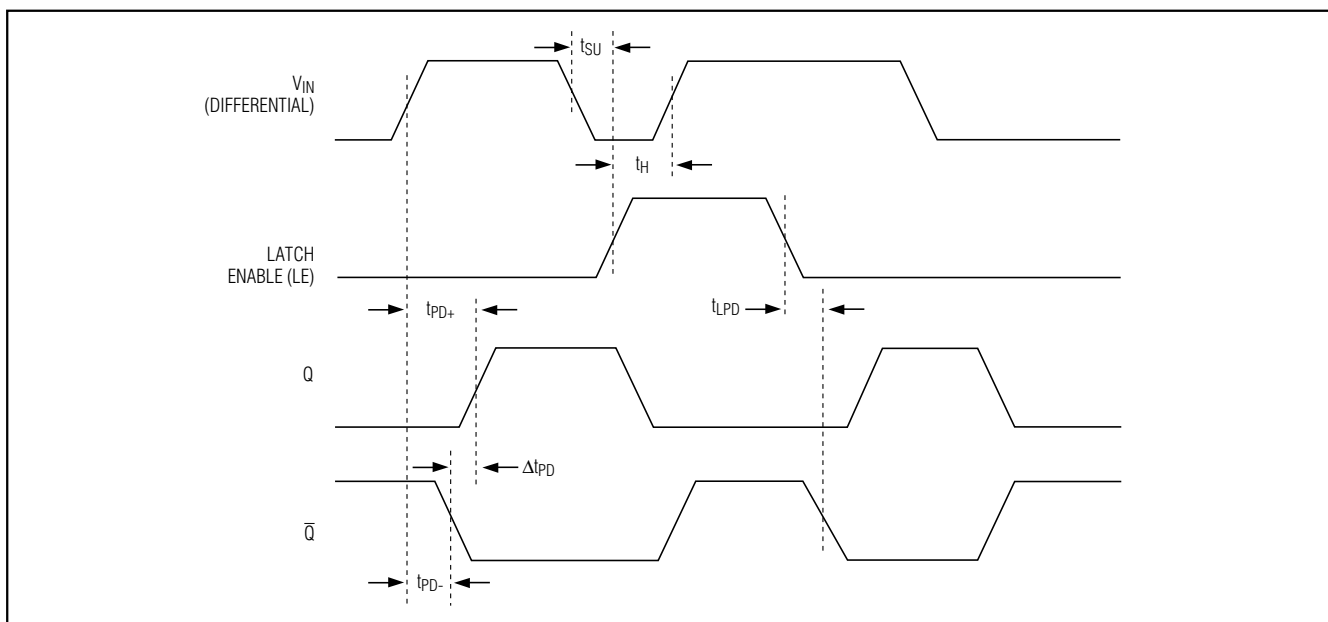

Figure 1. Timing Diagram
The MAX912/MAX913 provide a TTL-compatible latch function that holds the comparator output state (Figure 1). As long as Latch Enable (LE) is high or floating, the input signal has no effect on the output state. With LE low, the outputs are controlled by the input differential voltage and the latch is transparent.
The maximum clock and signal rate is 70MHz, based on the comparator's rise and fall time with a 5mV overdrive at +25°C (Figure 1). With a 20mV overdrive, the maximum propagation delay is 12ns and the clock signal rate is 85MHz.